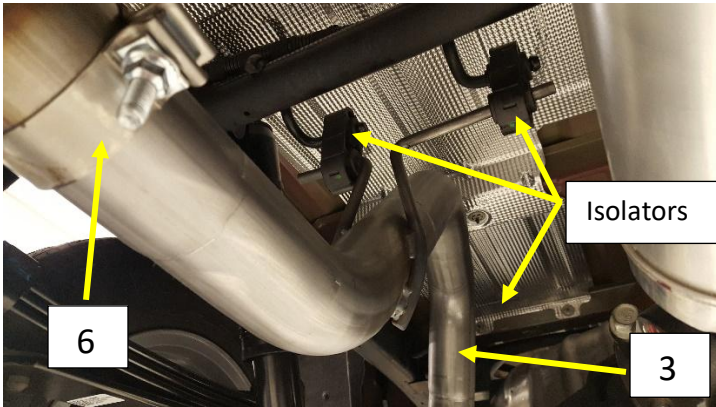

Figure.3
8. Install a Supplied 3.0" band clamps (6) on to the muffler outlet with the bolt at the top and the nut facing the ground. Do not tighten Fig.3